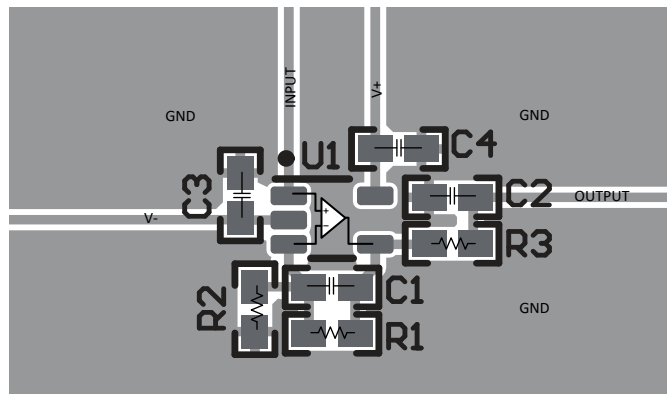

图 8-4. Operational Amplifier Board Layout for Non-inverting Configuration - SC70 (DCK) Package
- Place the external components as close to the device as possible. As shown in 图 8-4, keeping RF and RG close to the inverting input minimizes parasitic capacitance.